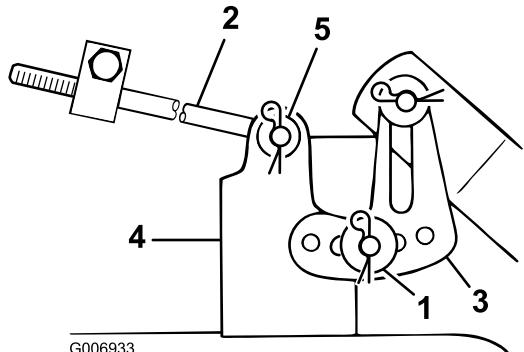

Figure 43
11. Slide the end of the long rod through the hole in the mower mount (Figure 43).
12. Install the thin washer and hairpin cotter to secure the rod in place (Figure 43).
13. Mount the slotted mower leveling bracket onto the pin on the mower mount (Figure 43).
14. Install the thick washer and hairpin cotter to secure the mower (Figure 43).